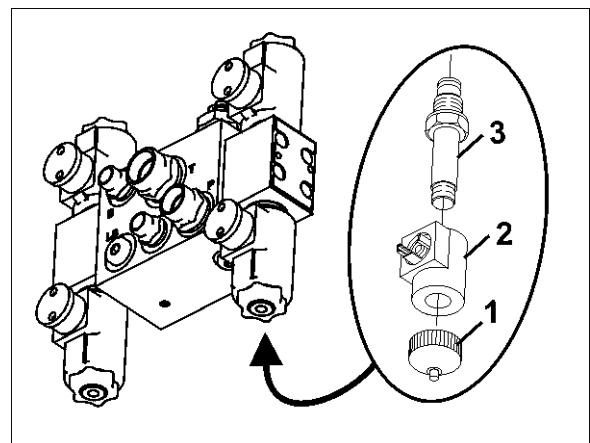

Fig. 180
1. Unscrew the magnetic cap (Fig. 180/1) abschrauben.
2. Remove the solenoid (Fig. 180/2) abnehmen.
3. Unscrew the valve rod (Fig. 180/3) with valve seats and clean with compressed air or hydraulic fluid